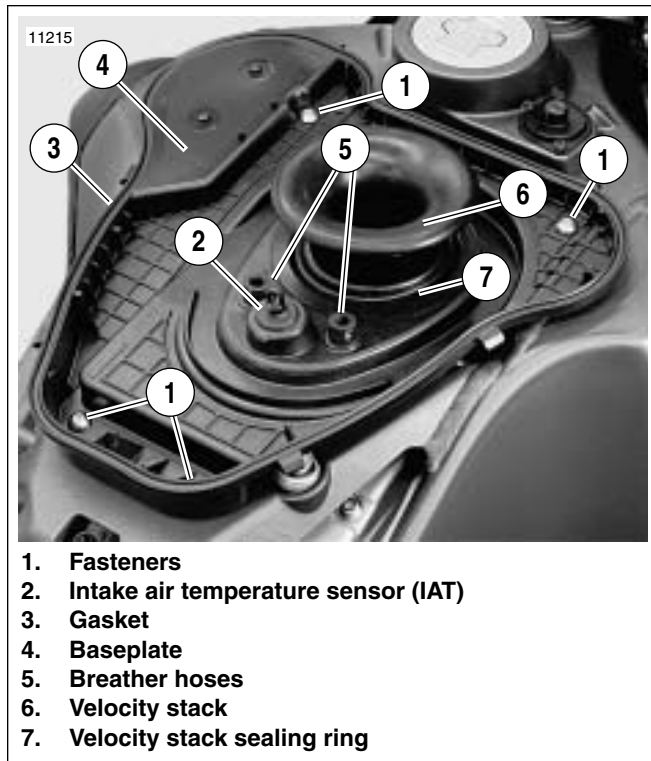

Figure 4-108. Baseplate (All Models)
2. Remove fuel vent tube from fuel cell vent and groove on top of air cleaner cover (1).
3. Disconnect and remove interactive exhaust harness (3).
4. Disconnect interactive exhaust cable (4).
7. See Figure 4-108. Remove air cleaner base plate.
- a. Remove four fasteners (1) and raise baseplate (4).
- e. Lift baseplate off of frame, carefully disengaging baseplate from rubber sealing ring on velocity stack (7).
5. See Figure 4-108. Inspect breather hoses, intake air temperature sensor grommet and baseplate gasket (3). Replace as necessary.
1. See Figure 4-108. Hold base plate above mounting position.